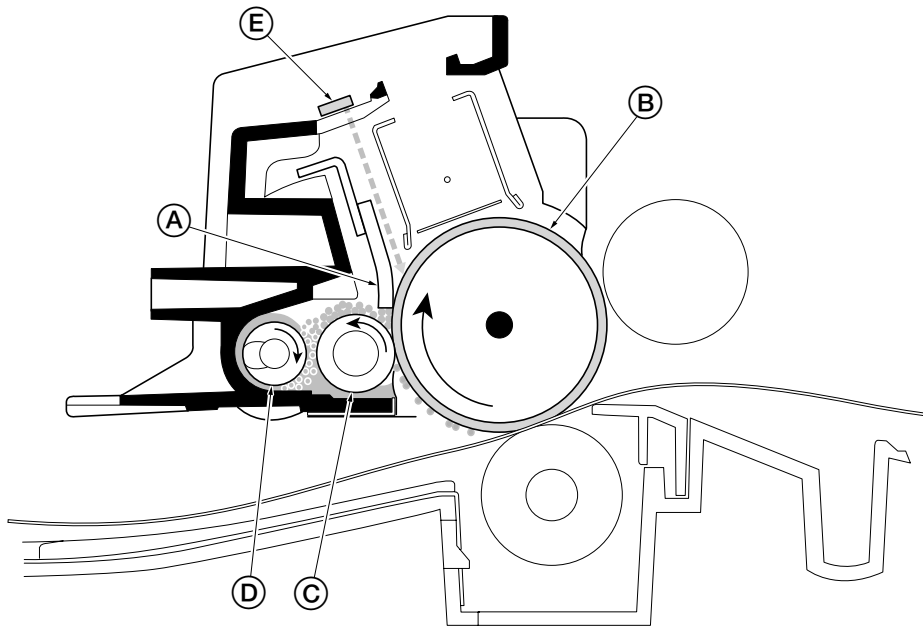

Figure 4-1-15 Drum cleaning and erasing static charge
After the drum (B) is physically cleaned, it then must be electrically cleaned to neutral state. This is necessary to erase any residual positive charges, ready to accept the next uniform charge. The residual charge is canceled by exposing the drum (B) to the light emitted from the eraser lamp [board] (E) (See figure 4-1-15 above.) in the similar manner as described on page 4-6. This lowers the electrical conductivity of the drum (B) surface making the residual charge on the drum (B) surface escape to the ground.